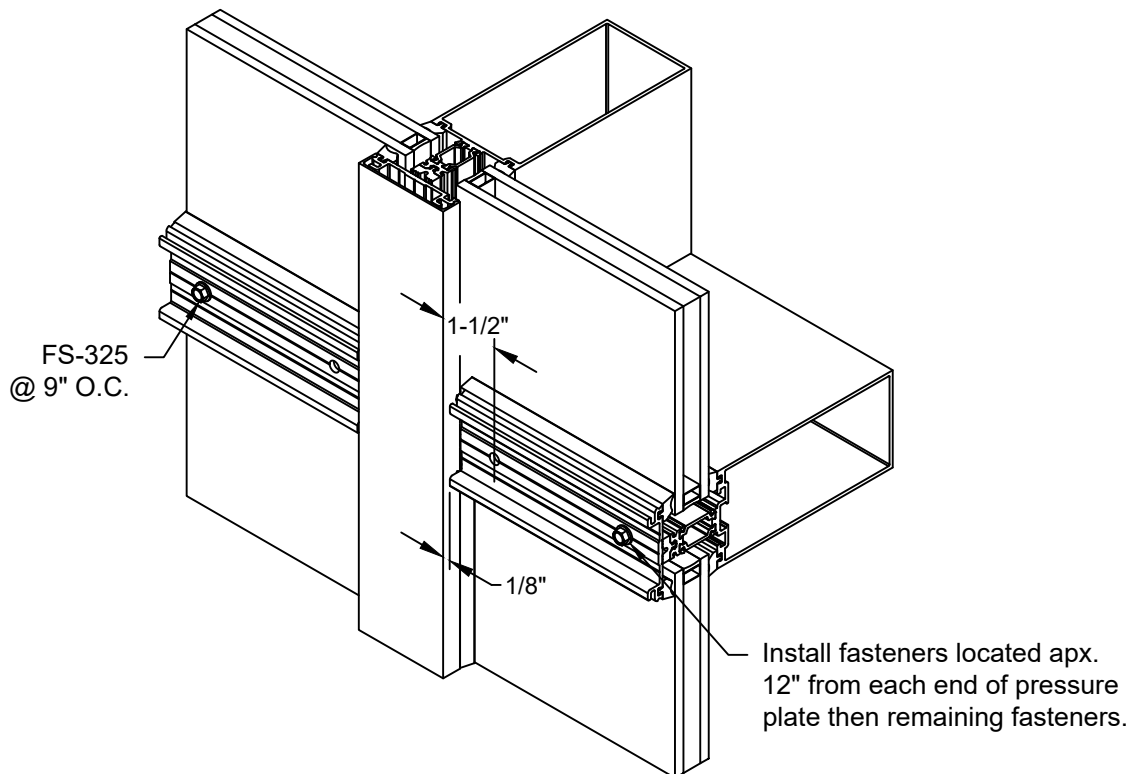

FIGURE 25
- 3.10 Pressure plate fasteners must be located 1-1/2" from each end to maintain proper compression. Drill 7/32" diameter holes as required. See **FIGURE 25**
- 3.12 Install horizontal pressure plates using FS-325 (#12-24 x 1-1/2" HWH Drill Flex) by attaching using holes approximately 12" from each end first. Torque fasteners to apx. 70 in/lbs. Then install all other fasteners, locate at 9" on center. **SEE FIGURE 25**